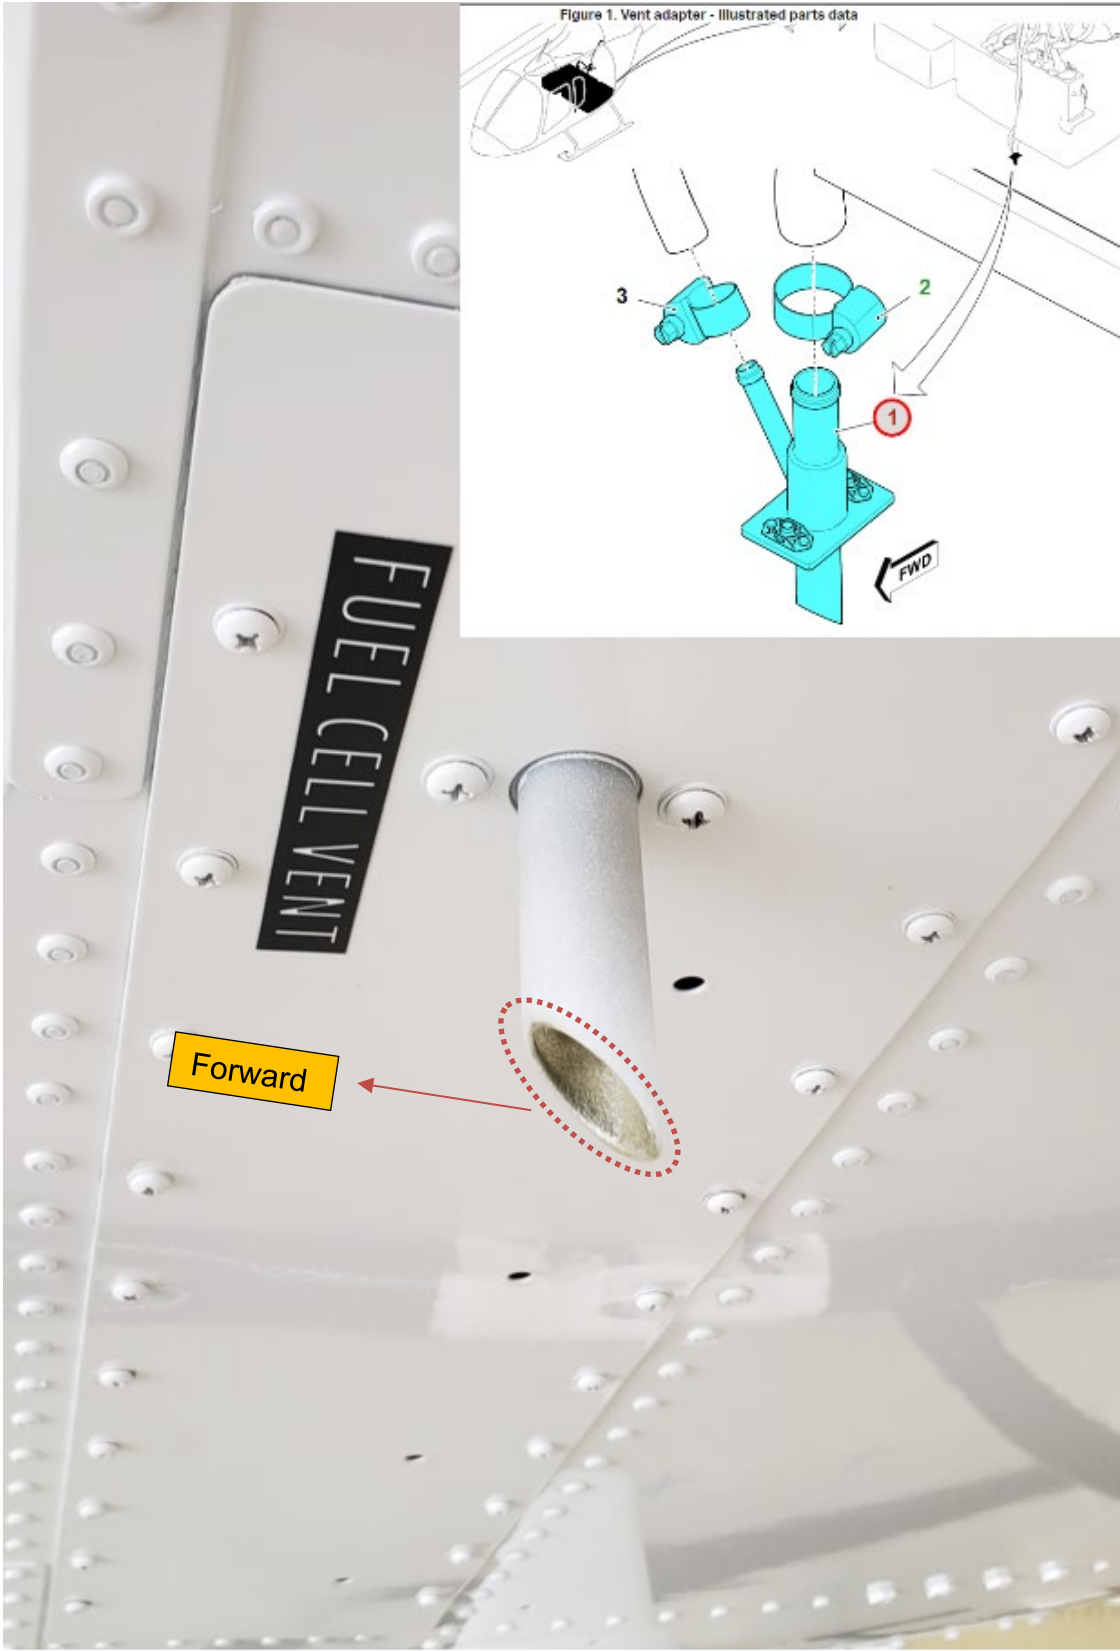

Figure 1 – Fuselage – Front
2. Inspect the fuel vent tube for damage and ensure the bevel (scarf) is facing forward (Figure 1). The tube should have smooth edges and be free of chips or cracks.
- (1) Review paragraph 2-3-B-8, Fuselage – Front, Item 10, Vents and Drains – Condition and Security.
- (2) Familiarize crew with fuel cell vent criteria for shape and opening facing forward (Figure 1).